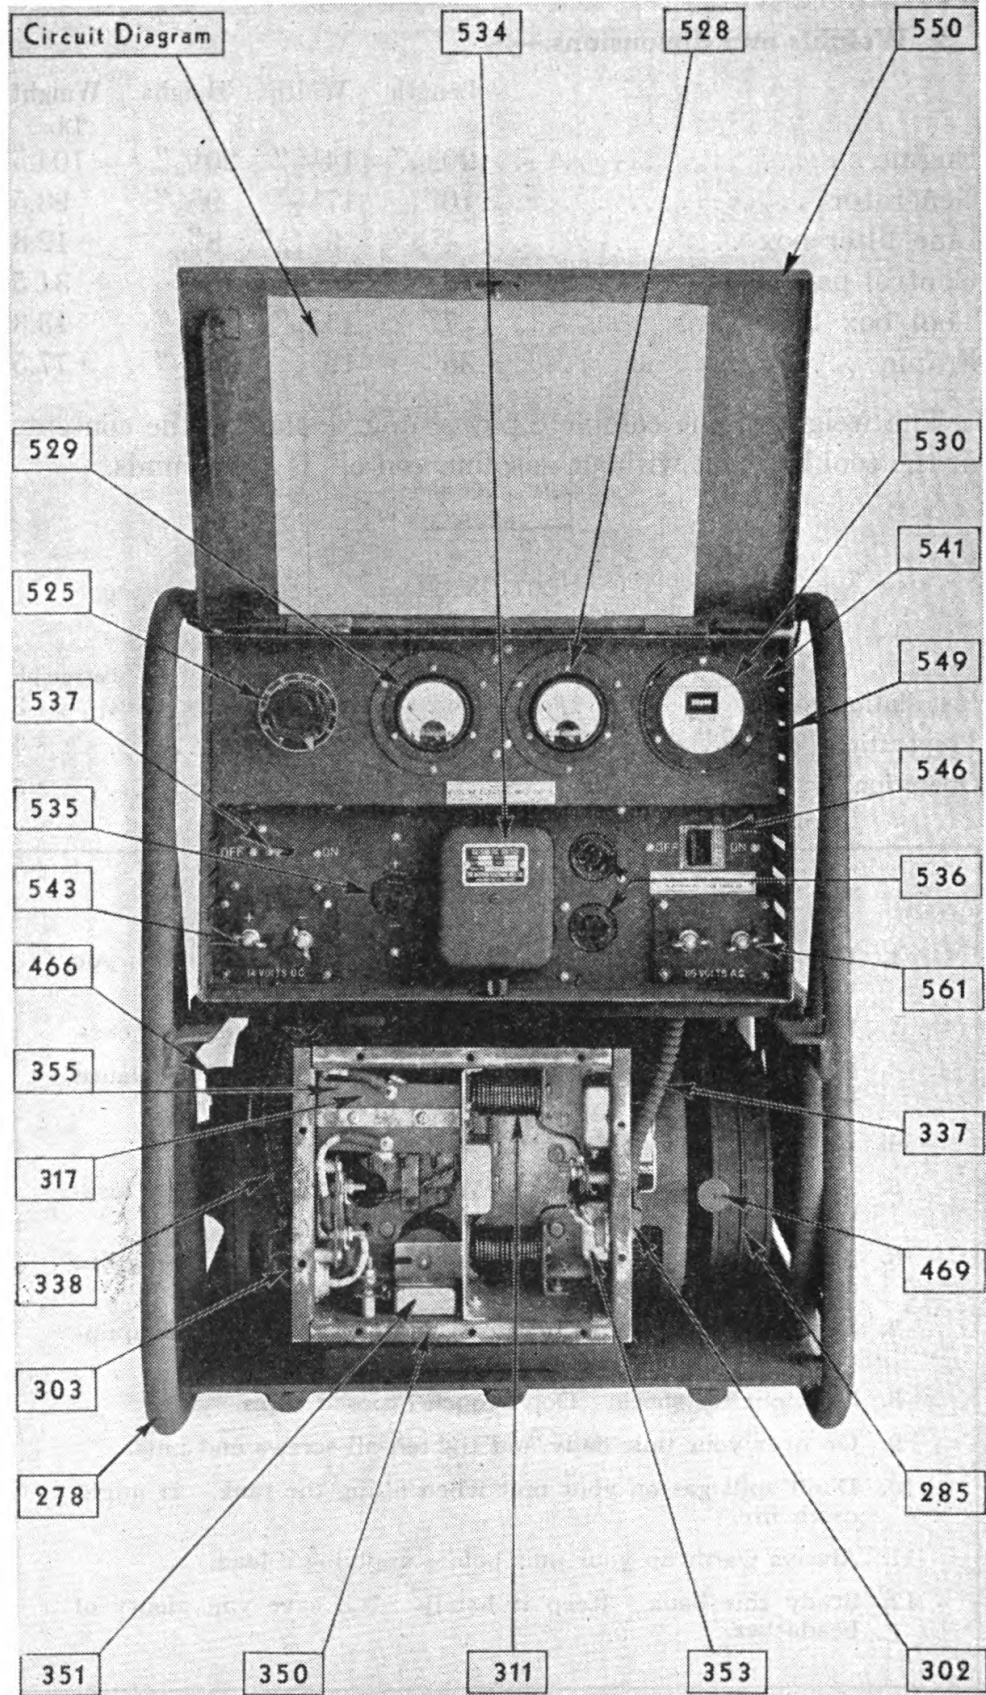
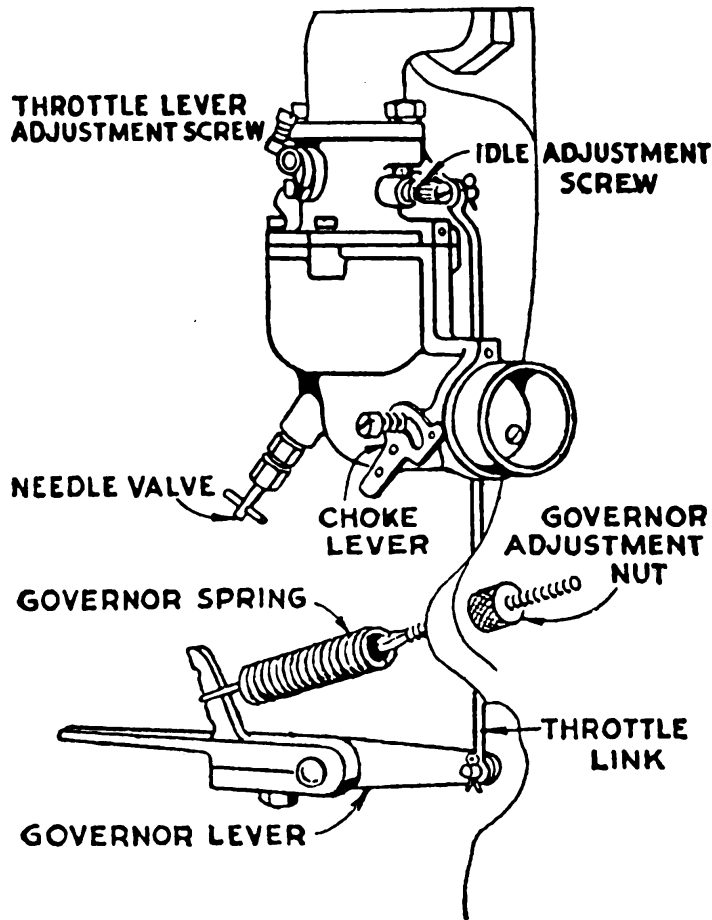

FIG. 4. PANEL BOARD AND FILTER BOX
FIG. 8. CARBURETOR AND GOVERNOR HOOK-UP
c. Line Filter box.—Directly connected to the generator is the line filter box (Fig. 4), which is designed to filter line noises and prevent radio interference on both the a-c and d-c lines. The a-c side contains two radio frequency choke coils of 95 mh inductance at 1500 kc, two .5x.5 mfd. condensers and one .6 mfd. condenser. The d-c side contains two radio frequency choke coils of 63 mh inductance at 2200 kc, one radio frequency choke coil of 95 mh inductance at 1500 kc, one .5x.5 mfd. condenser, one .6 mfd. condenser and three 3.5 mfd. condensers. The a-c and d-c sides are separated by a metal partition and they are both enclosed in a single sheet steel box with a weatherproof cover.
d. Control panel box.—Power leads from the line filter lead directly to the control panel box (Fig. 4), which is shock-proof mounted on the frame just above the generator. The panel board within the box contains a field rheostat which controls both
e. *Load Connections.*—All load connections are made at the control panel board (see fig. 4). The cover of the panel box may be held securely in the open position by means of the eye hook provided on the top of the panel box. The a-c load is connected to the a-c terminals (561, Fig. 4) and/or the lock-type receptacles (536, Fig. 4) on the right side of the panel board. The a-c load is connected to either the d-c terminals (543, Fig. 4) or the polarized receptacle (535, Fig. 4) on the left side of the panel board. The field rheostat (525, Fig. 4) located on the panel board controls both a-c and d-c voltage. The rheostat (531) on the rear side of the panel board controls the d-c output for charging 6 and 12-volt batteries. When using the a-c and d-c circuit at the same time, set as follows: regulate the field rheostat (525) to the determined a-c voltage, then adjust d-c charging rate with the rheostat
(531) located on the rear side of the panel box. In case the d-c load lowers the a-c voltage, readjust both rheostats. **CAUTION:** if the field rheostat is set so as to cause the a-c voltage to drop below 60 volts, the load must be removed by opening the a-c switch (546, Fig. 4) before the alternator will rebuild. The a-c output is controlled by the **OFF-ON** switch (546, Fig. 4) on the right side of the panel board. The d-c output is controlled by the **OFF-ON** switch (537, Fig. 4) on the left side of the panel board. When starting the unit in cold weather, allow the unit to run for 10 to 15 minutes before using any load. This permits the unit to warm up and the no-load voltage to decrease to a safe value.
f. Adjusting Frequency.—The frequency meter (530, Fig. 4) is located on the upper right side of the panel board, and will indicate frequency from 58 to 62 cycles. The frequency should be kept as close to 60 cycles as possible under load or 62 cycles at no load. The frequency of the a-c output is controlled by the speed of the engine. The speed of the engine is controlled by a centrifugal governor (118) and is carefully adjusted to maintain normal speed under load. If absolutely necessary the speed of the engine, and consequently the frequency of the a-c output, must be changed by increasing or decreasing the tension of the governor spring (117, Fig. 8). The tension of the governor spring may be increased by turning the governor adjustment nut (166, Fig. 8) clockwise, and decreased by turning the adjustment nut counterclockwise. See para. 5f.